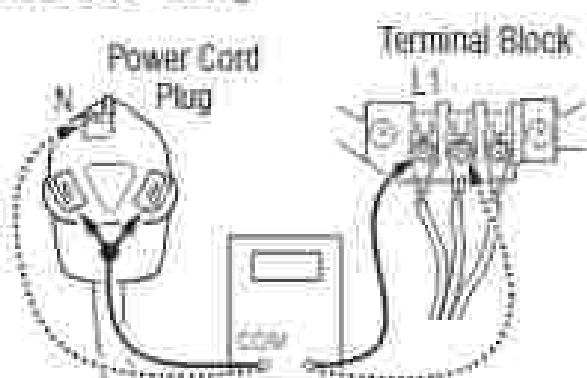

Figure 2 - Plug-to-Terminal connections for electric dryer.
### ACU CONNECTORS (FIGURE 2)
3. With an ohmmeter, check for continuity between the neutral (N) terminal of the plug and the center contact on the terminal block. See Figure 2.
4. In a similar way, check which terminal of the plug is connected to the left-most contact on the terminal block and make a note of it. This will be L1 (black wire) in the wiring diagram. See figure 2.
7. Check for continuity between the neutral (N) terminal of the plug and S1-3 (white wire) on the ACU.